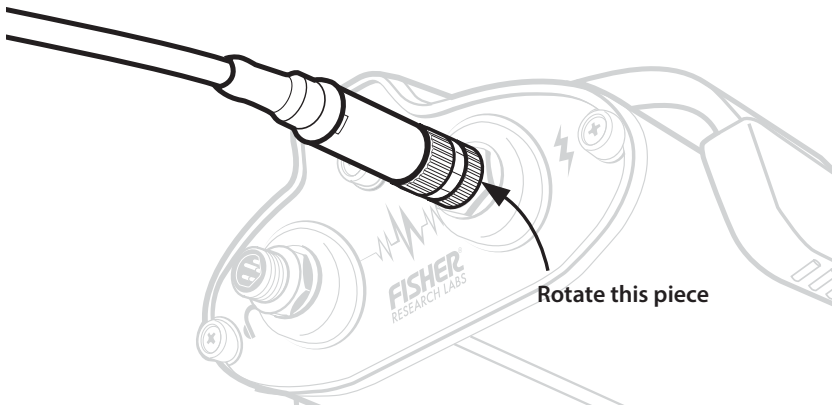

Figure 17
6. Turn outer knurled ring clockwise to thread on the connector (figure 17).